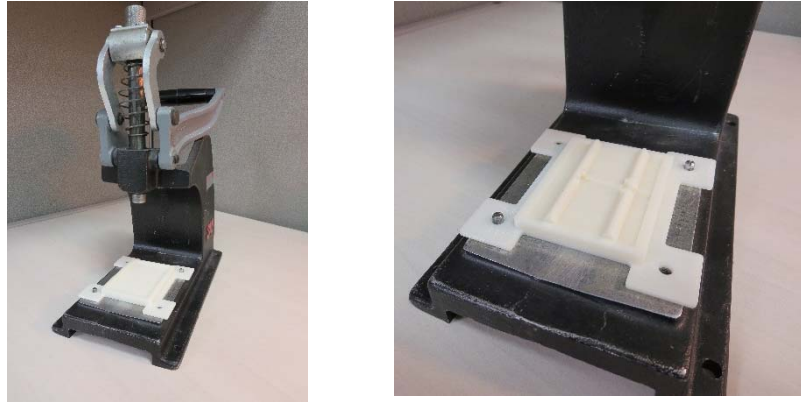
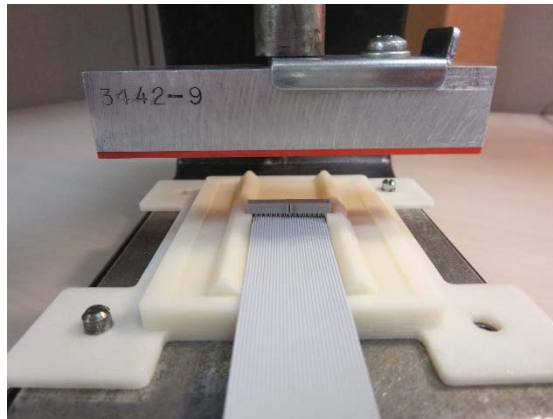

Figure 5
Figure 9
- 3.5 Install the 3M™ base plate, and appropriate locator plate insert on the press. (See Figure 5) Add platen by positioning it parallel with the connector body and cover. (See Figure 9)
- 5.2 Bring the handle of the press down until the IDC's press into cable and the connector fully seats into the cover. (See figure 9)